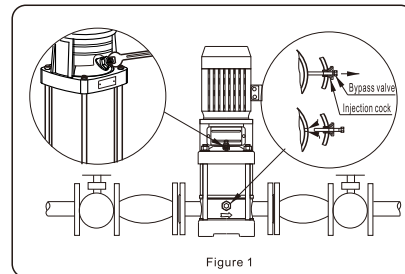

Figure 1
6.2 The air is discharged, tighten the bleeder screw using special tool. (Figure 1)
10.3 Need to replace the water drain valve, must first unscrew the valve, then unscrew the screw plug to tighten the drain plug, then tighten bypass valve. (Figure 1)